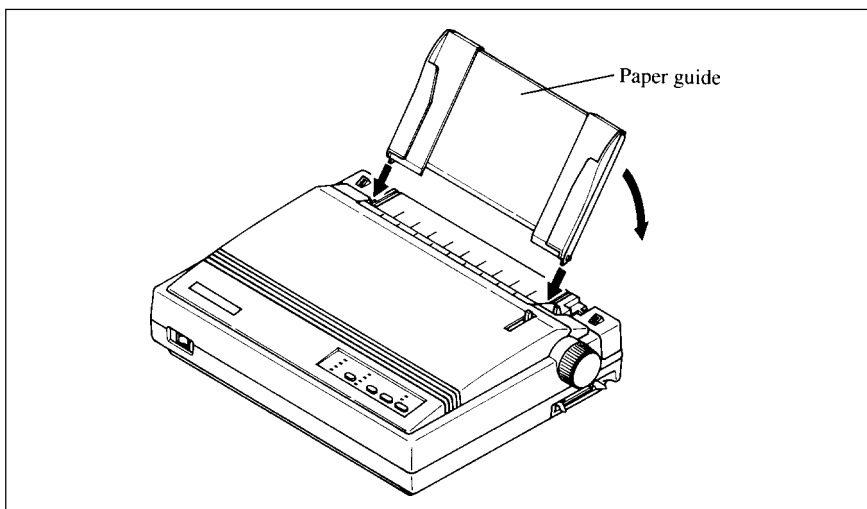

Figure 2-9. Installing the paper guide.
1. Insert the two slots on either side of the paper guide into the two tabs on the rear cover, as shown in Figure 2-9.